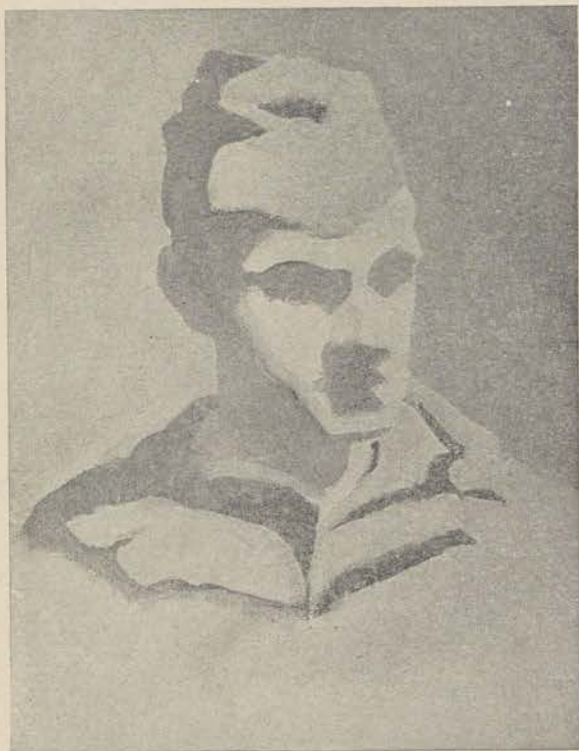

Figure 248.
c. FIRST STAGE (fig. 248). Sketch the outline of the head on your canvas in charcoal. Indicate lightly the placing of the main features. Do not attempt a